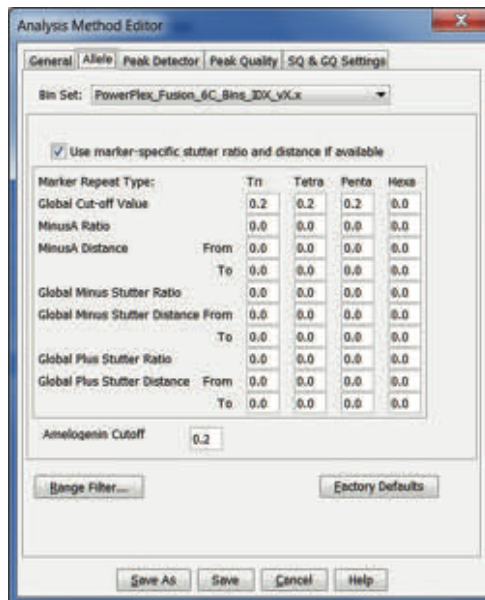

Figure 20. GeneMapper® ID-X Software, Version 1.4, Allele tab with settings for using a 20% peak filter.
6. Select the Allele tab (Figure 20).
8. Ensure that the “Use marker-specific stutter ratio and distance if available” box is checked. Doing this will assign locus-specific stutter filters and distances from the imported stutter file. Ensure that the appropriate global filter is applied to this analysis method. For example, for a 20% filter enter “0.20” for the Global Cut-off Value for Tri, Tetra and Penta repeats (Figure 20).